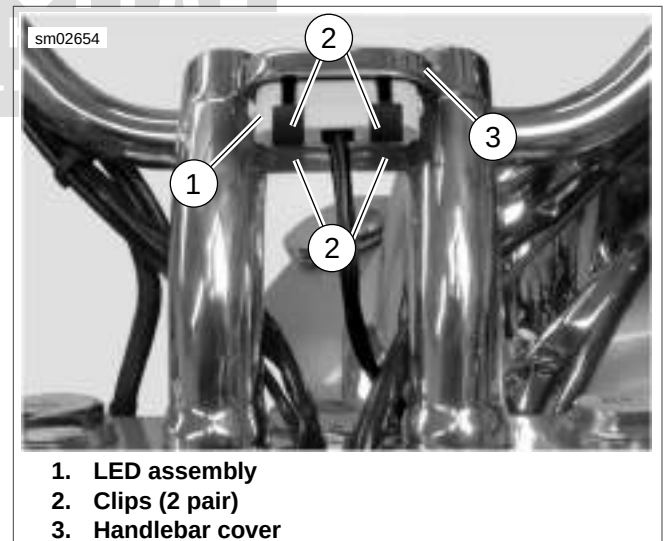

Figure 7-65. FXDL LED Assembly
- See Figure 7-65. Squeeze clips (2) together and gently pull LED assembly (1) from handlebar cover (3).
1. See Figure 7-65. Install LED assembly (1) into handlebar cover.
2. Engage clips (2) into tabs on LED assembly.